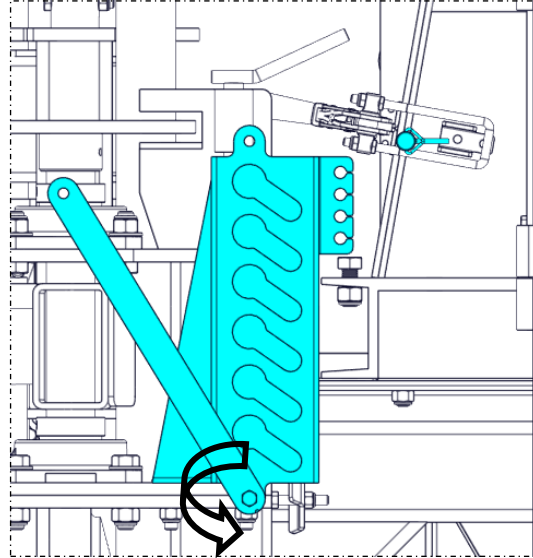

Figure 4.2
- B) Rotate the lock plate counter clockwise (Figure 4.2). If the lock plate is too tight, loosen the bolt at the bottom of the lock plate.